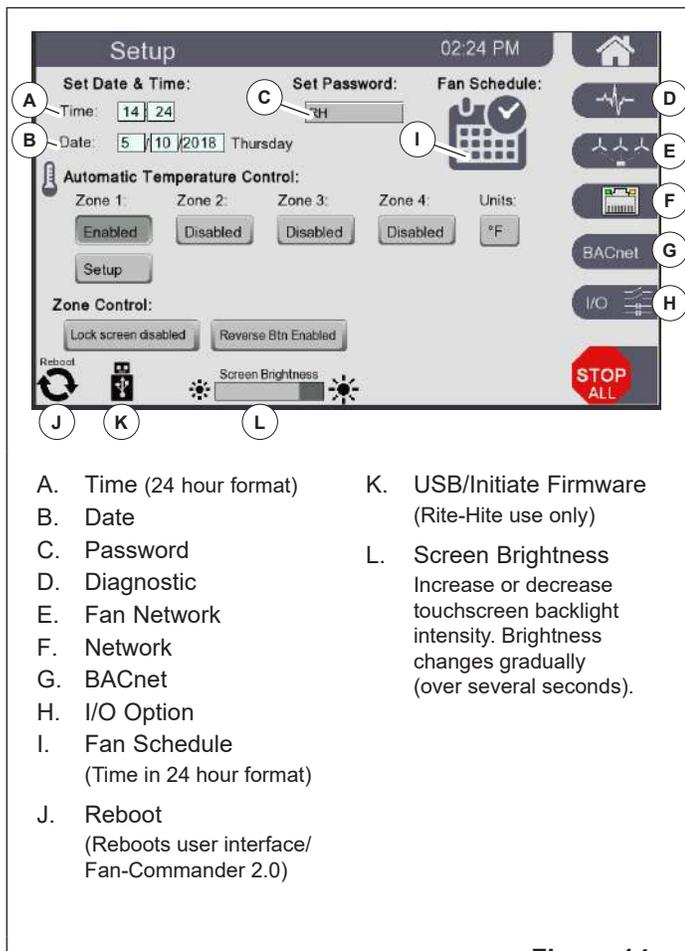

Figure 14
Touch the *Fan Schedule* button (I) (Figure 14) to schedule fans to be automatically started and stopped based on time and day of the week.
- A. **Lock Screen Button:** By default, all users have access to basic fan control (speed, start/stop). This button (A) may be toggled to prevent users from accessing the Zone Control screen. To lock out all users, toggle the Lock Screen button, press the Home button (top right) (Figure 14) to return to the Zone Control screen, and press the gear button (top right) (Figure 15) to enter the Login screen (Figure 14).
Access the *Diagnostics* screen with Diagnostics button on Setup screen (D) (Figure 14).
Access the *Fan Network Setup* screen (Figure 4) with Fan Network button on Setup screen (E) (Figure 14).
Access the *Network Setup* screen with Network button on Setup screen (F) (Figure 14).
BACnet | Access the *BACnet* screen with *BACnet* button on Setup screen (G) (Figure 14).